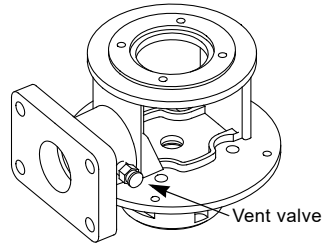

Fig. 4
2. If the pump is fitted with a vent valve, this valve must be opened, see fig. 4.